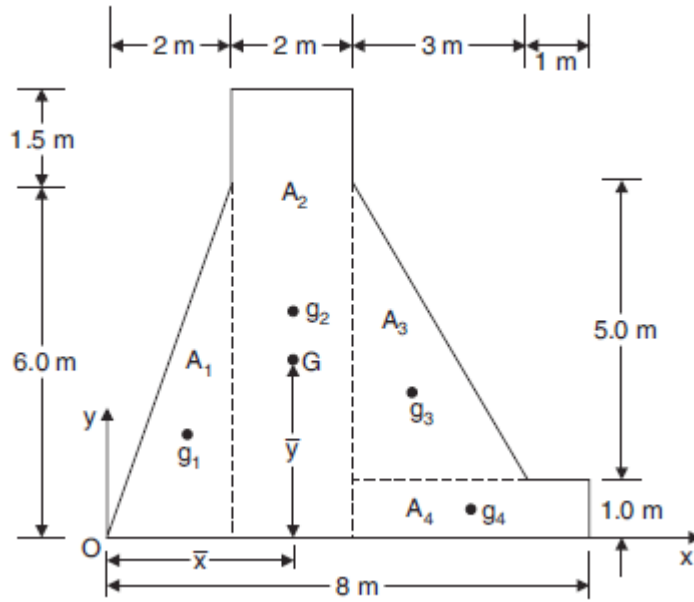

Figure 6.
- Determine the centroid of the section of the concrete tailings dam shown in Figure 6.